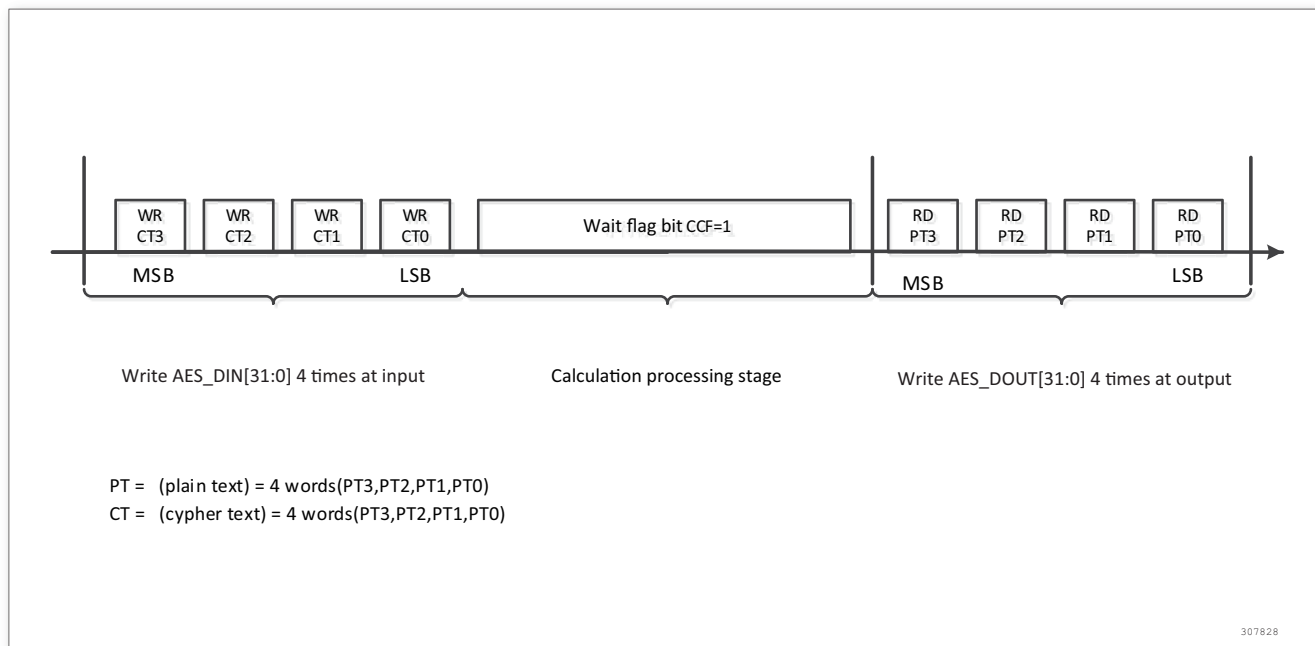

Figure 273. Mode 4: Key Expansion and Decryption
6. Write the AES\_DINR register 4 times, to enter plain text (MSB first), as shown in Figure 273.
8. Read the AES\_DOUTR register 4 times to fetch the ciphertext (MSB first), as shown in Figure 273.